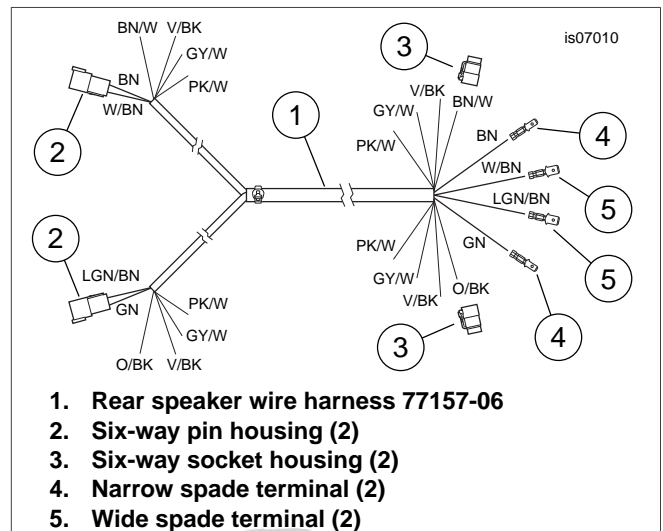
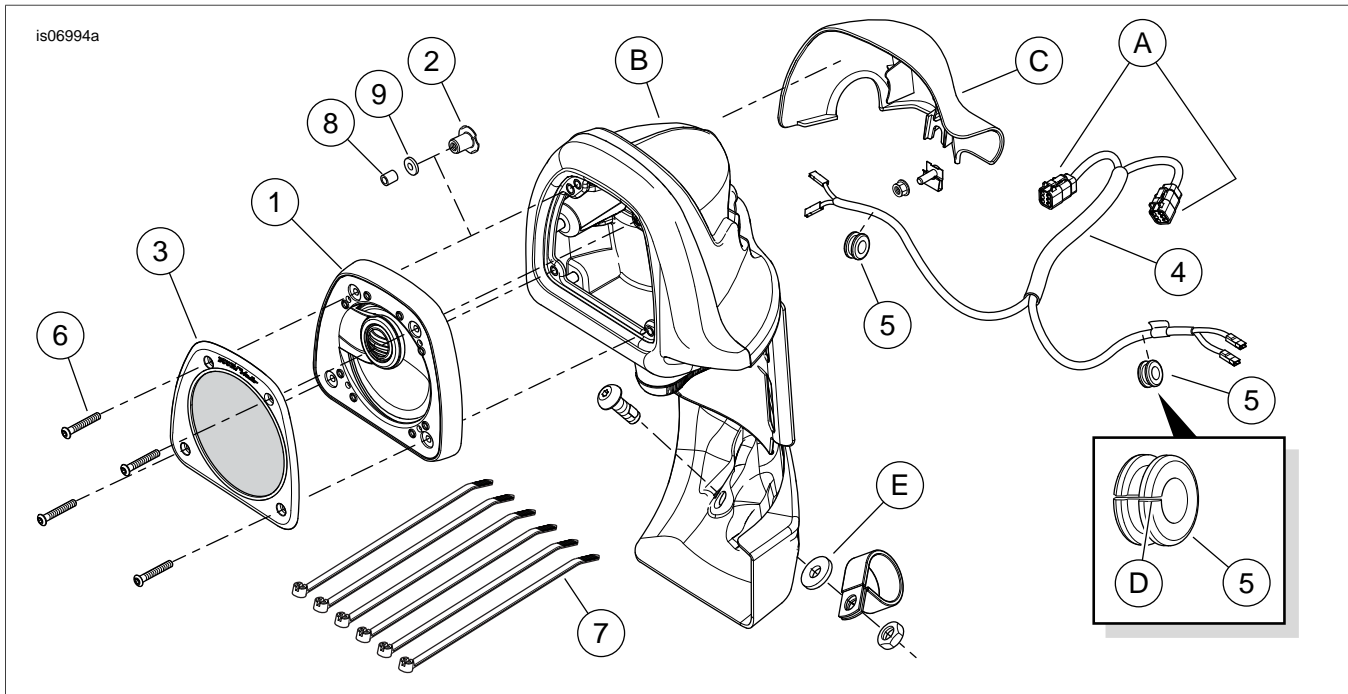

Figure 3. Harness, Lower Fairing Speaker to Rear-Mounted Amplifier
Figure 4. Service Parts, Boom! Audio Lower Fairing Speakers
6. On the back side of the glove box, measure about 1.0 in (25 mm) over (8) and 0.5 in (12 mm) up (9) from the lower fairing cap mating flange (shaded area), and drill a 3/8 in (9.5 mm) hole (10) in the glove box inboard side wall.
8. See Figure 4. Get the lower fairing wire harness (4) from the kit.
9. Get either the left- or right-side lower fairing. See Figure 4, inset. Slit (D) one of the grommets (5) from outer edge to center hole, and install over the correct (left- or right-side) wires of the lower fairing wire harness (4) leg, about 4.0 in (100 mm) past the start of the conduit on the end with two female terminals.
See Figure 4. Match the wire colors in cavities 5 and 6 of the six-way socket housings (A) on the lower fairing wire harness (4) with those in the six-way pin housings [41A] and [42A] on the radio harness or non-Ultra overlay harness.
See Figure 3. A rear speaker wire harness (Item 1, Part No. 77157-06), two 0.19 in (4.8 mm) spade terminals (Item 4, Part No. 72438-06), two 0.25 in (6.4 mm) spade terminals (Item 5, Part No. 72446-06) and six cable straps (Part No. 10006) will be needed.
8. Connect the pin housings (Figure 3, Item 2) of the rear speaker wire harness to the socket housings (Figure 4, Item A) of the lower fairing speaker wire harness.